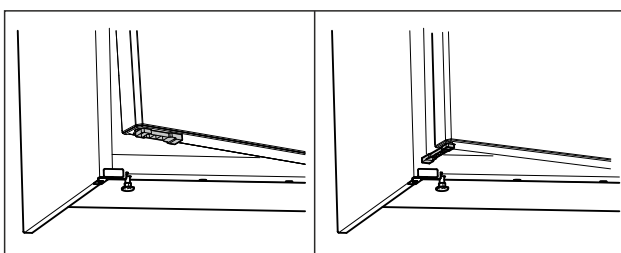

Fig. 54 *
- ▶ Turn door opening limiter by 90°. (see Fig. 54) *